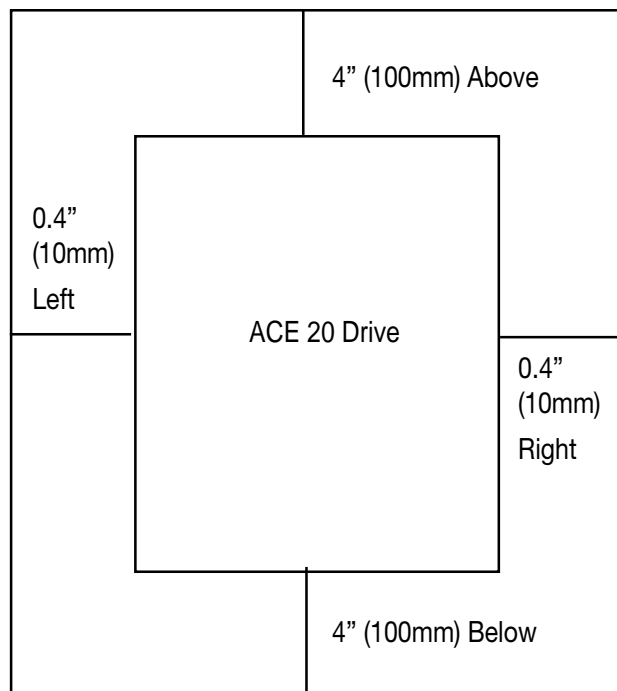

Figure 2-2-1
- (1) Mount the drive securely in the upright position on a rigid structure so that the drive keypad faces front. Avoid mounting the drive upside down or horizontally.
- (2) Allow clearances for cooling as shown in Fig. 2-2-1. This allows the drive, which generates heat during operation, to cool. The generated heat is radiated upward. Do not install the drive below a heat sensitive device.
- (3) The temperature of the heat sink rises to about 90 degrees C during operation. Mount the drive on a base made of a material able to withstand the temperature rise.